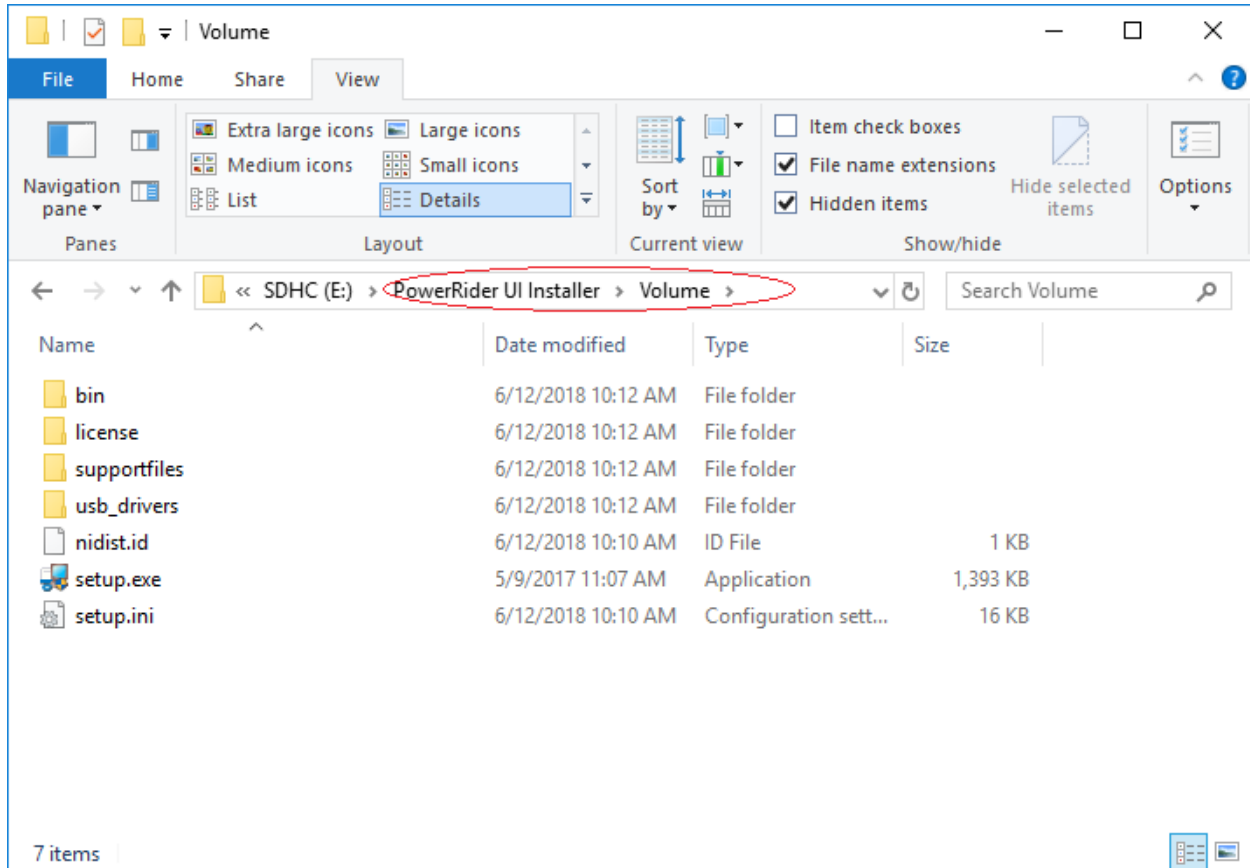

Figure 2 Installer Folder
1.1.5 Please wait while the installer initializes (Figure 2).